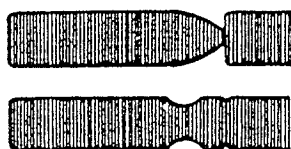
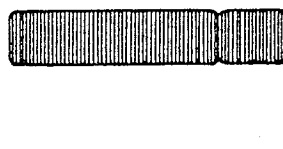

Fig. 8
Fig. 9
5. If the FM waveform observed by oscilloscope is as same as shown in Fig. 8, adjust screw ⑥ until waveform becomes as shown in Fig. 9.
6. If the FM waveform observed by oscilloscope is as same as shown in Fig. 10, adjust screw ⑤ until wave form becomes as shown in Fig. 9.